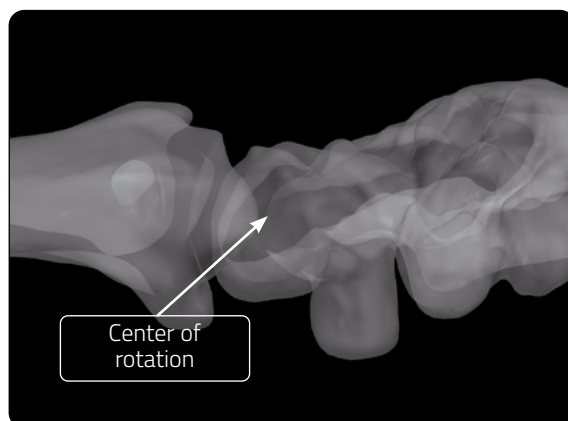

Fig. 13
- Under image intensification, identify the center of rotation of the wrist in AP and Lateral view and ensure that the Wrist Module Central Unit is aligned with it (**see figure 13**)